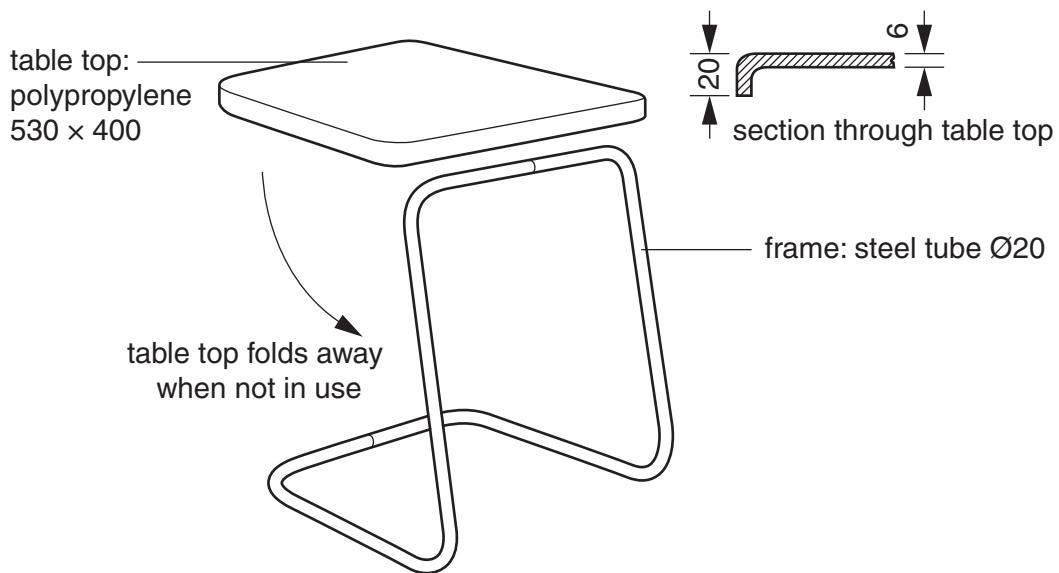

Fig. 7
- 5 Fig. 7 shows an incomplete design for a table that could be used while watching TV.